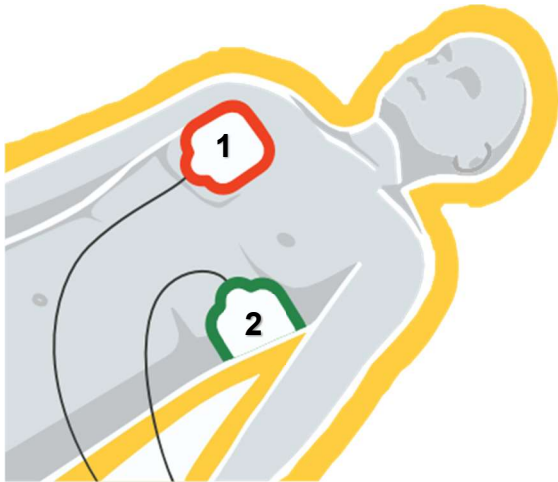
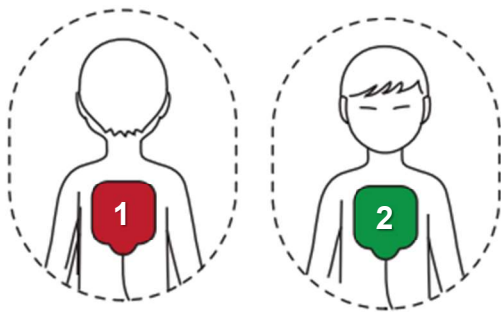

Fig. 11 Position of electrodes on adults
Fig. 12 Position of electrodes on children
- ▶ Remove the protection foil from one of the electrodes and then immediately place the electrodes onto specified position. (Refer to Fig. 11 for adults and Fig. 12 for children)